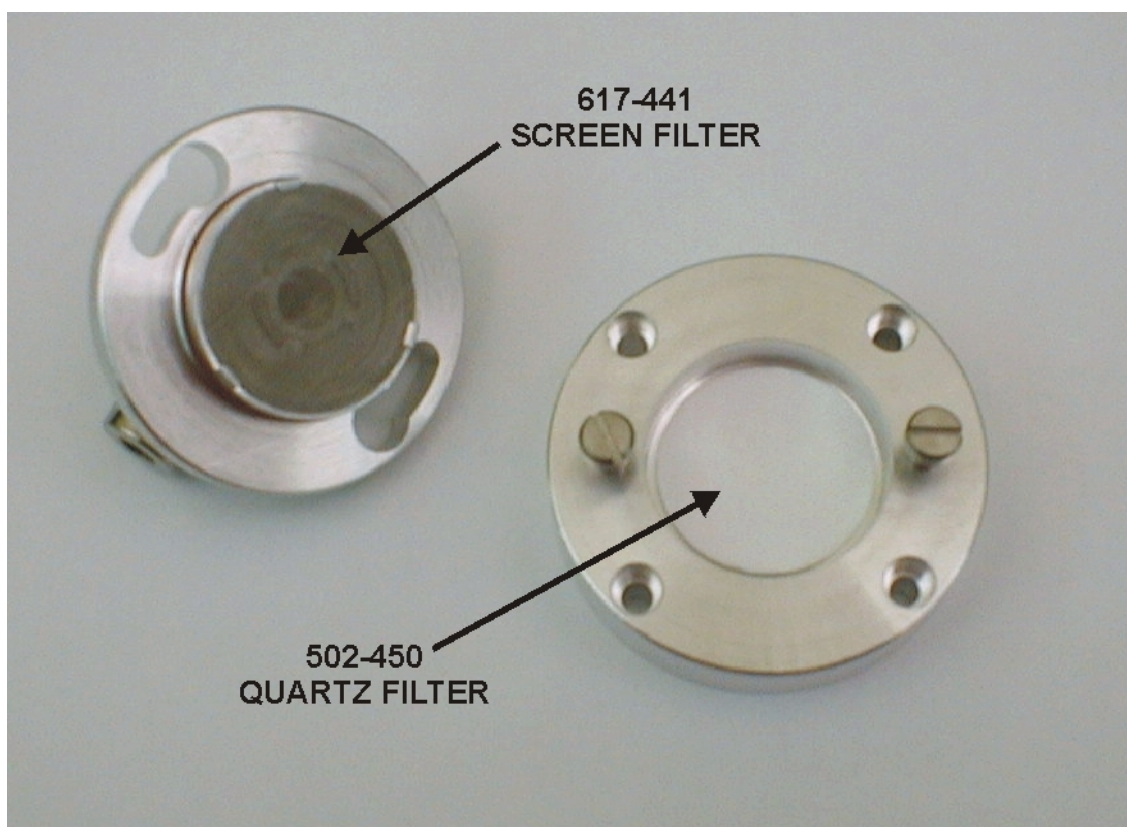

Figure 6-13
- D. Replace the Quartz Filter in the afterburner interface block and clean the Screen Filter in the afterburner interface cap with a brush, Figure 6-13, page 6-27.